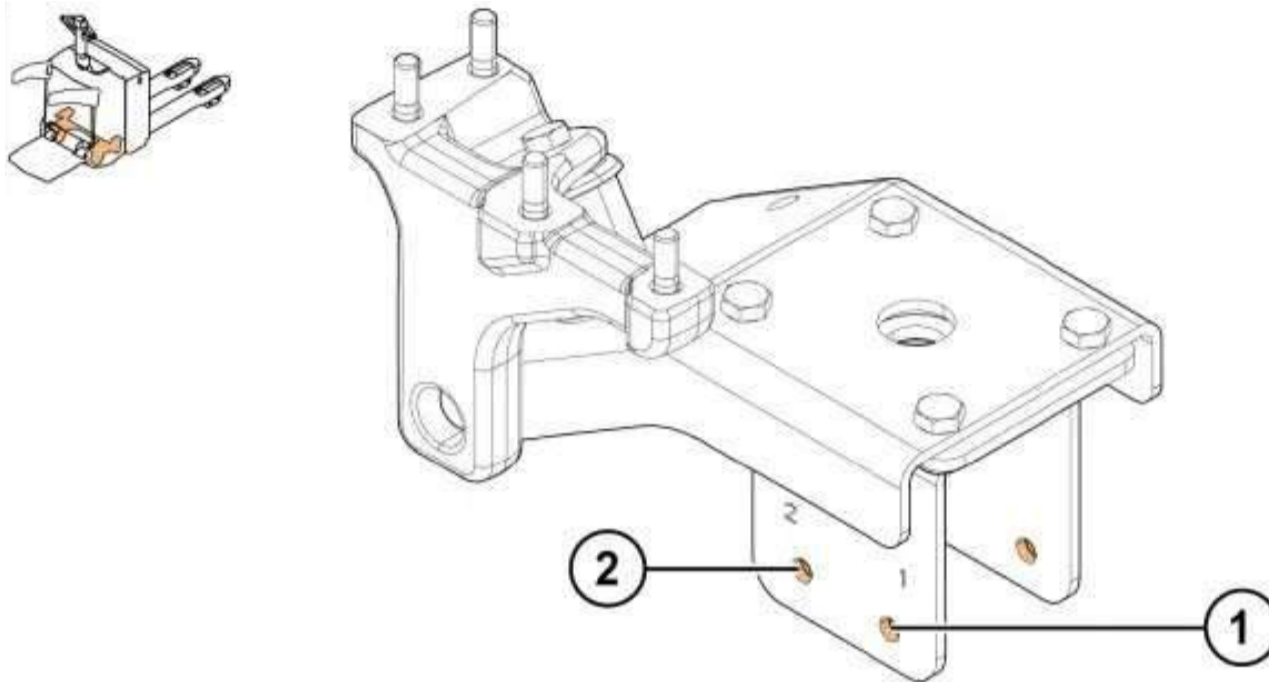

Figure 39. Castor wheel locations
- In a new truck, the castor wheels are in location 1 shown in Figure 39.